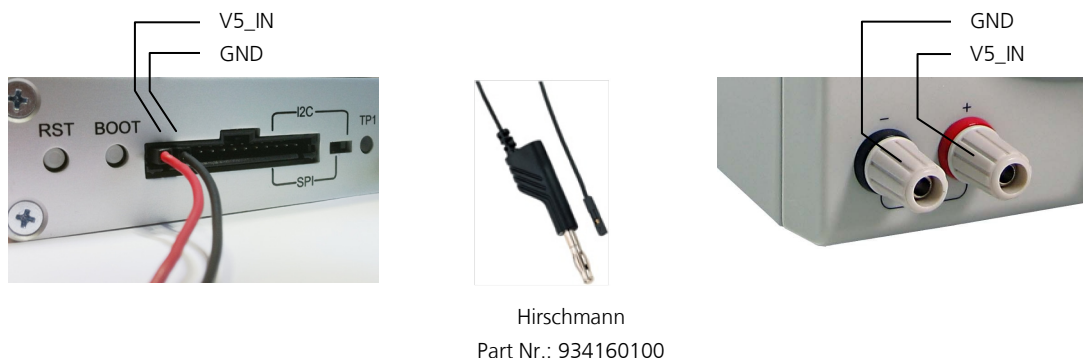
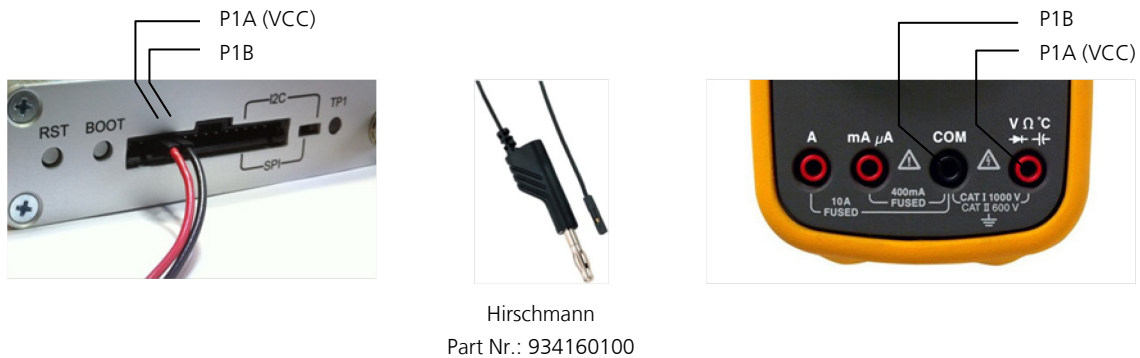

Figure 3: Example 5V DC power supply
Figure 4: Example – tracking current measurement
For accurate measurements, it is recommended to use a cable of at most 1 meter in length. Figure 3 shows an example of a power supply connected to the test connector by using standard adapter cables from the manufacture Hirschmann. Figure 4 shows an example for overall current measurement. When connecting the 3.3 V digital interfaces RS232, SPI and DDC to your application, a cable length less than 25 cm is recommended.
1. Connect a true RMS voltmeter across P1A (VCC) and P1B of the front connector. (see Figure 4)